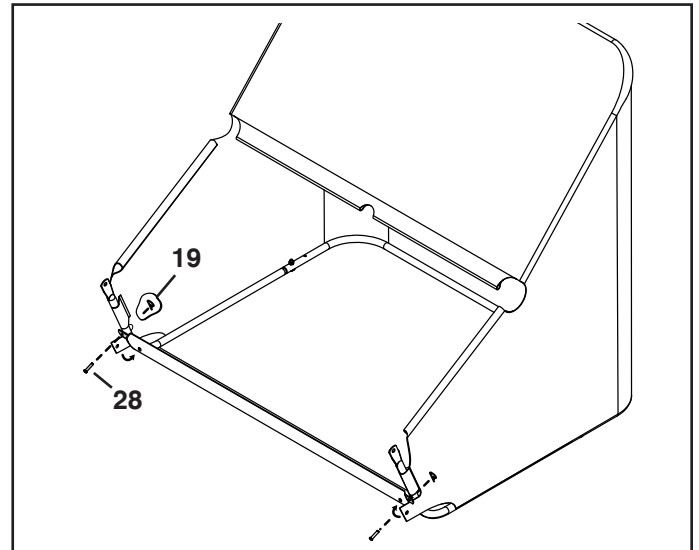

FIGURE 9
14. Slide the front flaps of the hopper bag up onto the front of the lower hopper tubes. Secure the bag frame tube to the lower hopper tubes using two clevis pins (28) and hair pins (19). See figure 9.